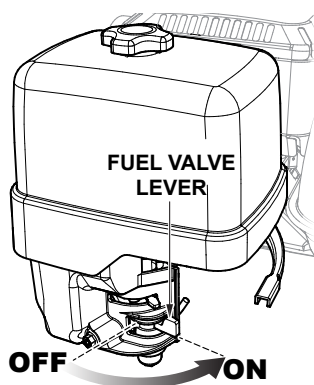

Figure 7. Engine Fuel Valve Lever (ON)
2. Place the engine fuel valve lever (Figure 7) in the **ON** position.